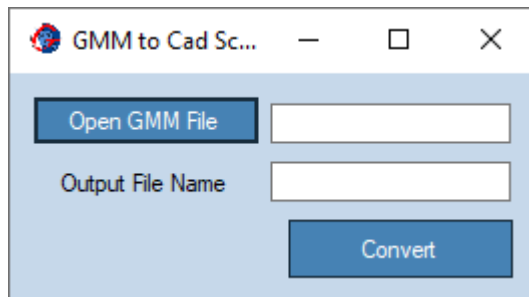

Figure 12: *Geo Meshing v3.1* to CAD script surface dialog window.
- **GM to CAD Script:** Opens a dialog window (shown in Figure 12) for converting *Geo Meshing v3.1* meshes to a CAD script surface. The script can be drag/dropped into CAD software and it will create a 3Dface surface.